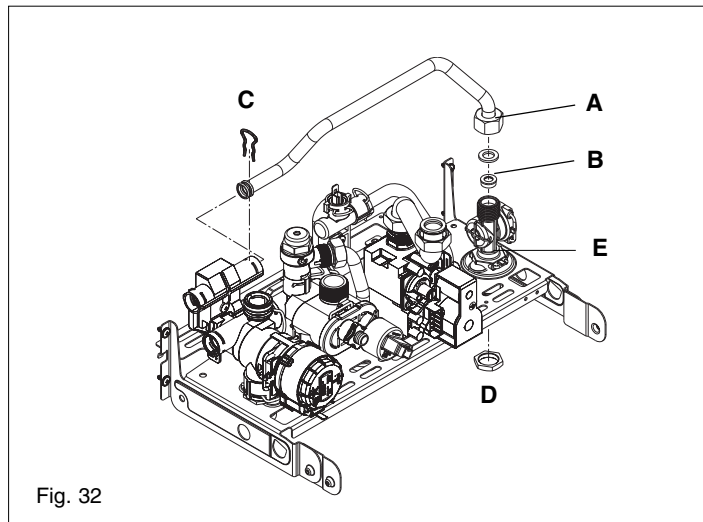

Fig. 32
6.17 FLOW RESTRICTOR (fig. 32)
6.18 DHW FLOW METER (fig. 32)